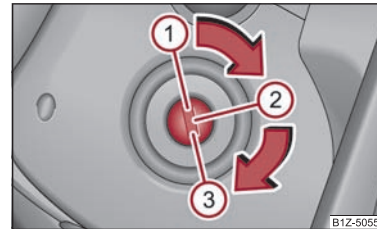

Fig. 84 Ignition lock positions
- The engine can be switched off by turning the ignition key into position  ⇒ page 77, fig. 84.